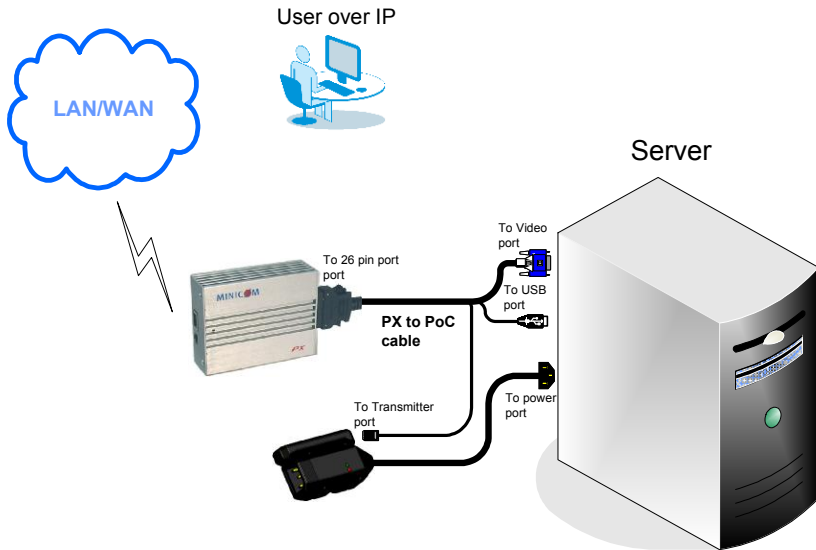

Figure 7 Power on Cable to PX connections
2. Connect the 26 pin connector of the supplied PX to PoC cable to the 26 pin port of the PX. See Figure 7.